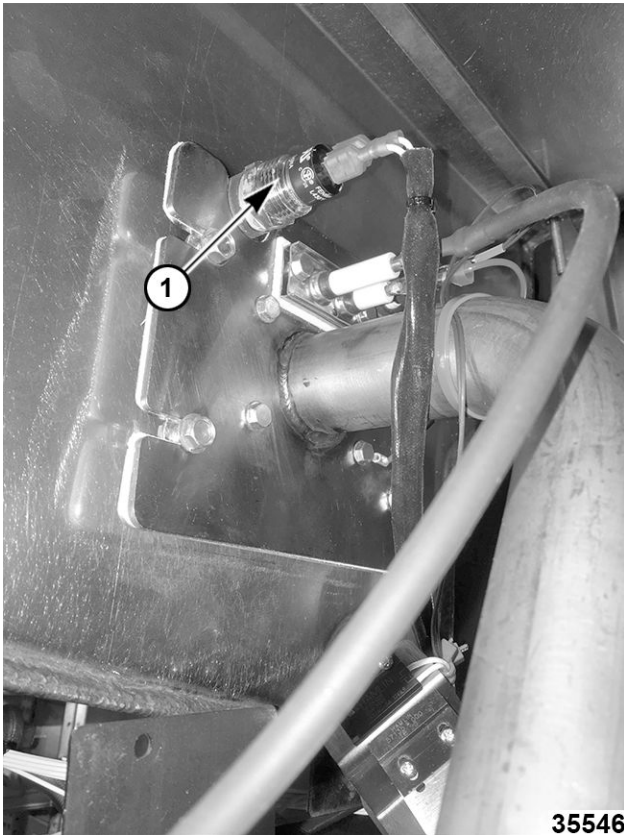

Fig. 18
5. Slide high limit probe (1, Fig. 18) out of fry tank.
**NOTE:** High limit no capillary wire type shown in Fig. 18.